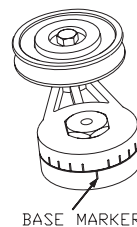
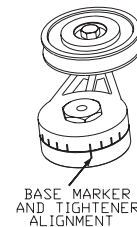

Figure 6
Figure 7
- Using the wrench on the belt-tightener body, apply pressure in the appropriate direction (see Figure 5) until the belt is properly tensioned. Note: The belt-tightener body has marks on it as shown in Figure 6 representing degrees. The proper alignment after tightening the mounting bolt is shown in Figure 7.